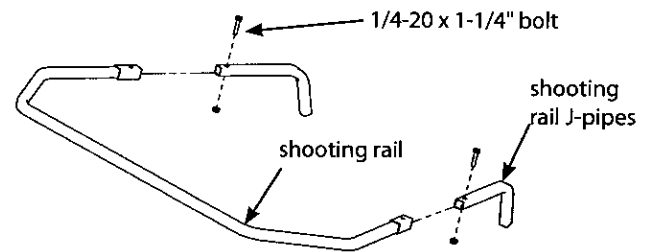

Figure 8
11. Insert the shooting rail J-pipes (410113) into the shooting rail front (410065) and secure together using (2) provided 1/4-20 x 1-1/4" bolts and locknuts. **SEE FIGURE 8.**